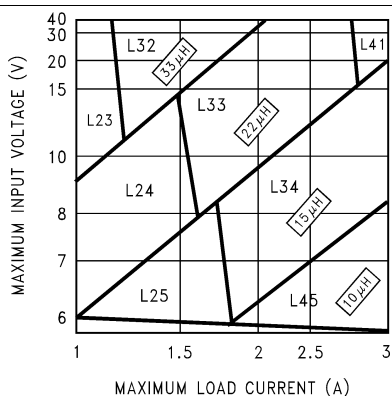
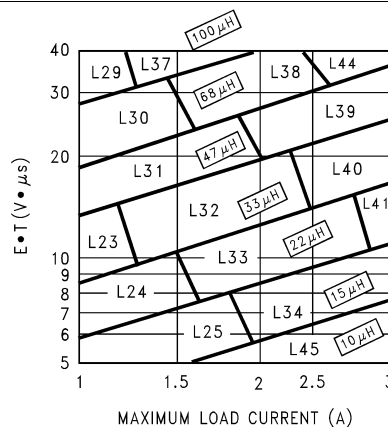

Figure 17. LM2676-3.3
Figure 20. LM2676-ADJ
Step 3: Determine the inductor required by using one of the four nomographs, Figure 17 through Figure 20. Table 3 provides a specific manufacturer and part number for the inductor.
Step 5: Determine an input capacitor from Table 7 or Table 8 for fixed output voltage applications. Use Table 1 or Table 2 to find the specific capacitor type. For adjustable output circuits select a capacitor from Table 1 or Table 2 with a sufficient working voltage (WV) rating greater than $V_{IN\ max}$, and an RMS current rating greater than one-half the maximum load current (2 or more capacitors in parallel may be required).
Step 3: Use the nomograph for the 3.3-V device, Figure 17. The intersection of the 16 V horizontal line (V_{IN} max) and the 2.5 A vertical line (I_{LOAD} max) indicates that L33, a 22- μH inductor, is required.